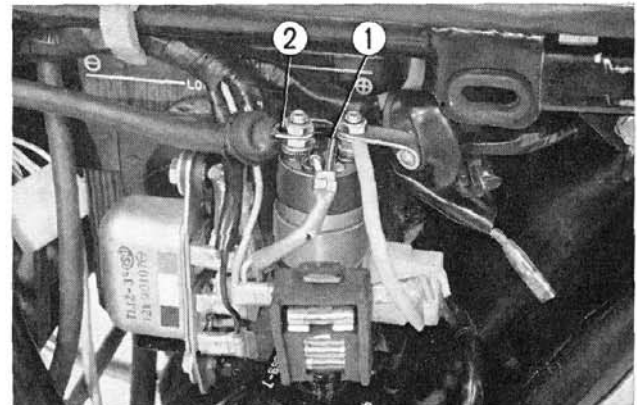

Fig. 9-3 ① Magnetic switch
1. Remove the left side cover and disconnect the starting motor cable from the magnetic switch. (Fig. 9-3)